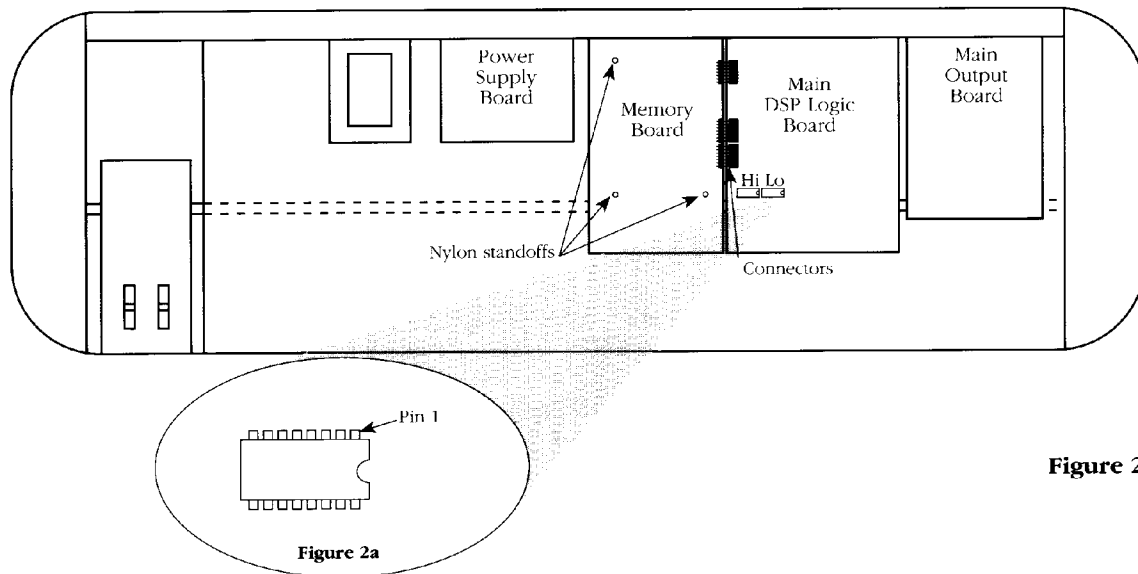

**Figure 1**
3. Turn the unit off and disconnect it from the AC mains power (unplug it from the wall). On a flat, protected working surface (static-free), turn the unit over on its front panel. You will need a Phillips-head screwdriver to remove the two screws holding the front panel down and the twelve screws holding the keybed in place. Refer to *Figure 1* for screw locations. *Make sure the keybed is supported when you turn the unit right side up.*